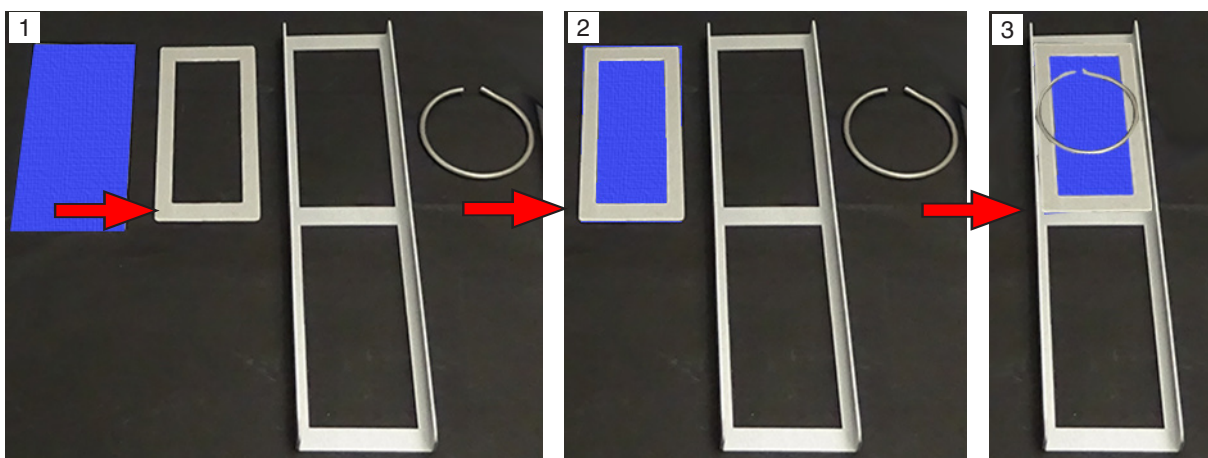

Figure 12.5p: Textile specimen mounted in textile/thin film holder.
- The textile/thin film holder (Part Number X-10255-X) is shown in Figure 12.5p.